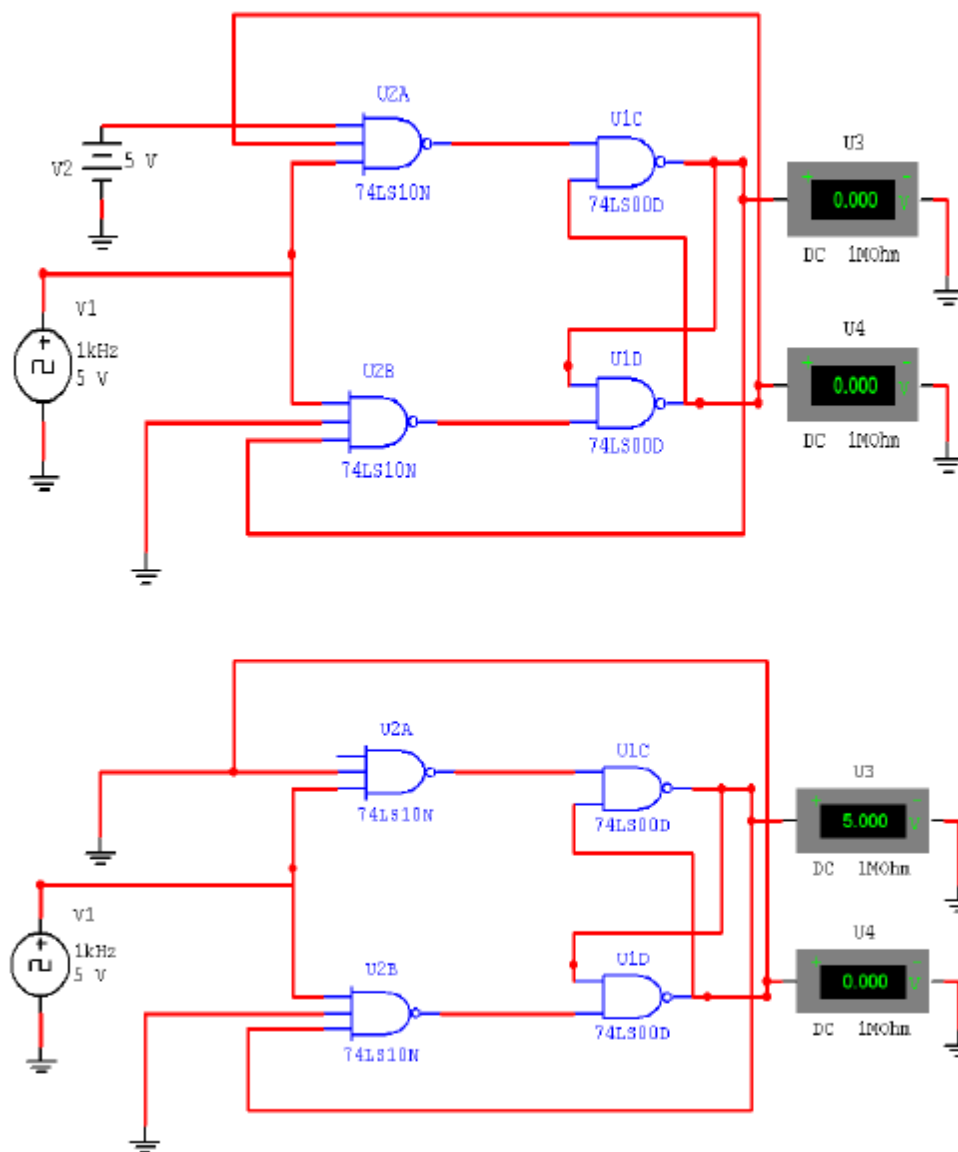

Fig.20 J-K flip flop using NAND gates
- Construct the circuit shown in Fig.20.